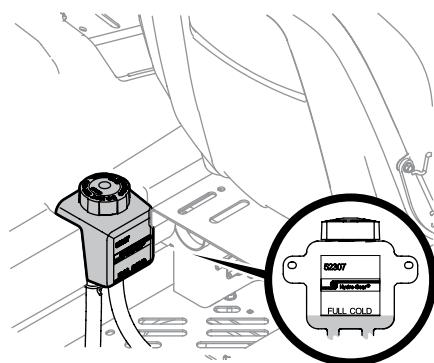

Figure 4-3
1. Pivot the operator's seat forward and clean the reservoir cap and the area around the cap to prevent debris from contaminating the transmission oil. See Figure 4-3.
2. Turn the reservoir cap counterclockwise to re-move, then check the oil level in the reservoir. Oil should be visible at the bottom of the cup, but the oil level must NOT be above the "FULL COLD" line. See Figure 4-3. DO NOT FILL THE RESERVOIR.